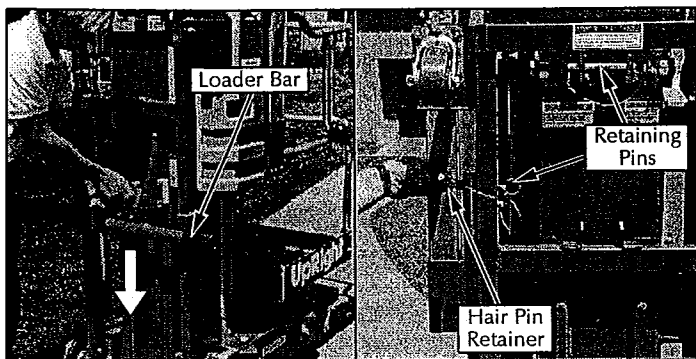

Figure 3-8: Loader Bar / Strut
When using a winch to load onto tilt-bed, attach winch cable to winch point (fig. 3-8). Winch slowly.
2. Release the gravity hook and lower the Loader Bar (fig. 3-8).
3. Unpin the top of the Strut and remove it from the storage pocket on the Tilt Back Frame (fig. 3-8)
4. Unpin the lower end of the Strut and return it to its storage pocket. Insert the lower Retaining Pin into the upper end of the Strut and secure it with the Hair Pin Retainer, wrapping the cable around the leg of the Tilt Back Frame (fig. 3-8).